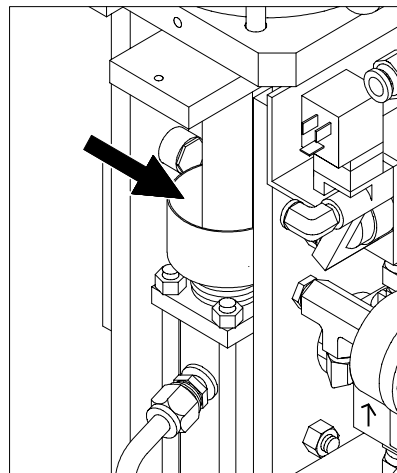

Figure 10. Pump Lube Cup Location
7. Adjust the pressure regulator clockwise until the pumps begin to move, approximately 4 bars (50 psi) air pressure. When the pumps reach the top reverse of their stroke, turn the pump switch to OFF. This will facilitate easy access to the pump lube cup on the isocyanate pump. Fill the lube cup to about 8 mm (1/4 inch) from the top with pump lube. (See Figure 10).